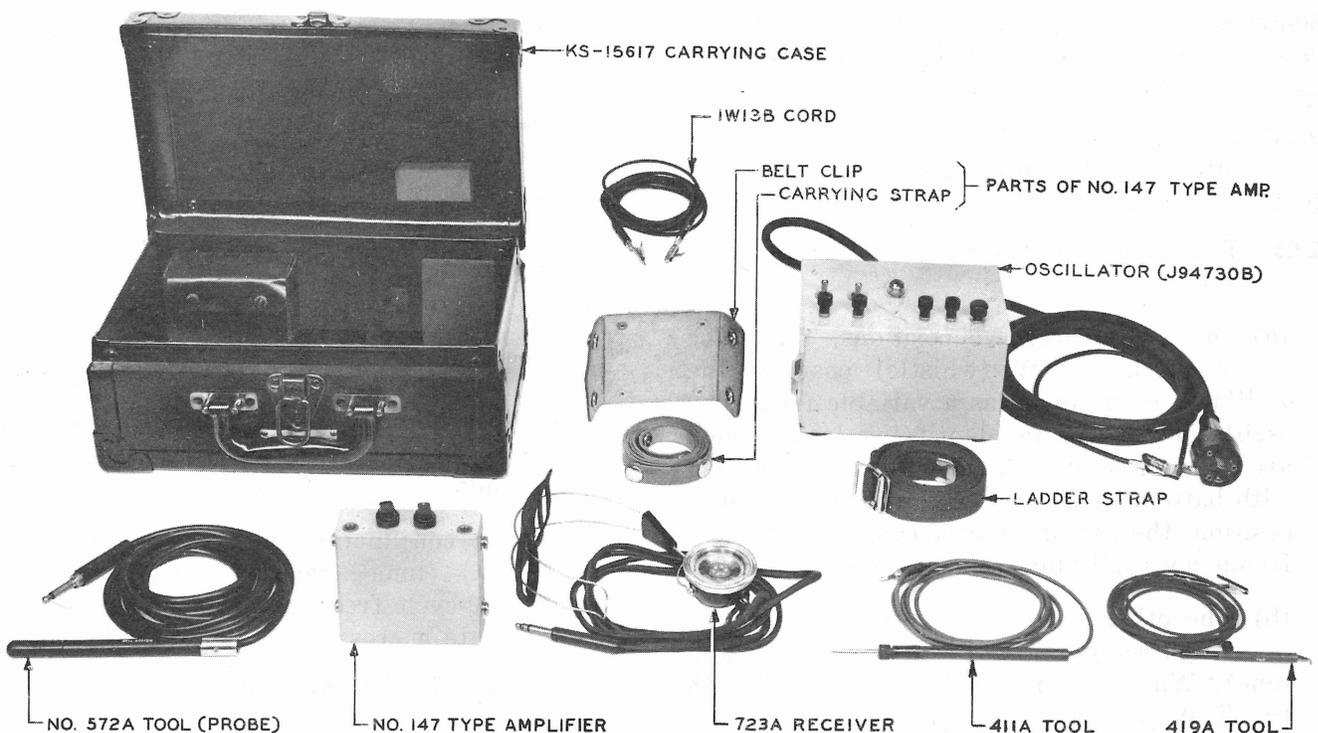

Fig. 1 - 1A Fault Locator Test Set (J94730A)
2.01 The test set consists of a J94730B oscillator, a 147-type amplifier with belt clip and carrying strap, a 572A tool, a 723A receiver, test cords, a ladder strap, and a black fiber carrying case having inside dimensions of approximately 12-3/8 in. by 7-3/8 in. by 5-5/8 in. All of the component parts assembled in the carrying case weigh approximately 12 pounds. Fig. 1 shows the components of the test set outside of the carrying case.
2.08 The oscillator may be located on a step of a rolling ladder, if desired, and fastened to the step of the ladder by means of the brackets at each end of the case and the ladder strap shown in Fig. 1.
2.15 The amplifier may be carried by means of the carrier strap or belt clip shown in Fig. 1. The strap and belt clip are readily attached to the amplifier by means of snap fasteners.
2.16 The 572A tool, shown in Fig. 1, is a magnetic-type probe, 1/2 in. in diameter and 6-5/8 in. long, intended for wire identification and location of crosses by picking up the 500-cycle frequency supplied by the oscillator to the leads under test.